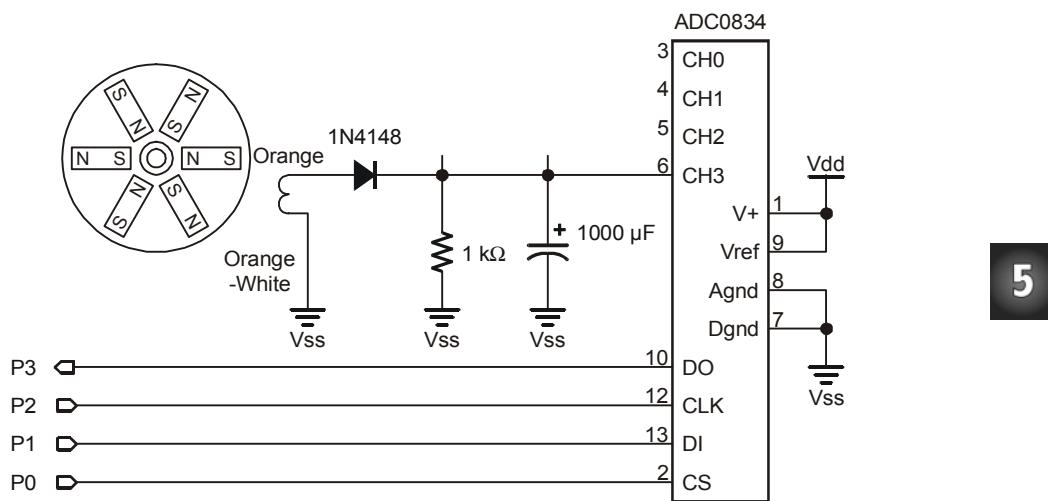
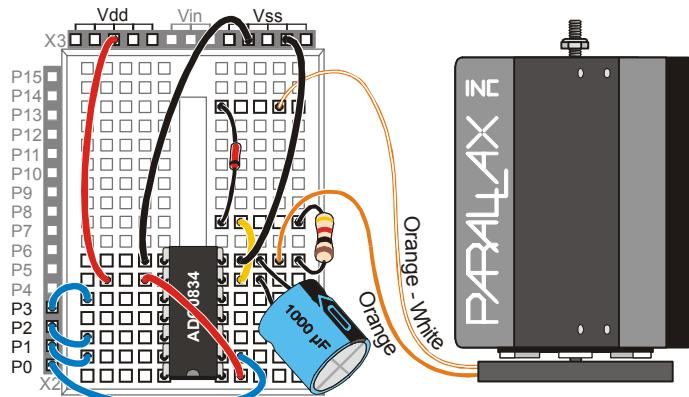

Figure 5-16: Half Wave Rectifier with Smoothing Capacitor Schematic
Figure 5-17: Half Wave Rectifier with Smoothing Capacitor Wiring Diagram
To get closer to the performance of a true linear DC power supply we need to begin to smooth out the half wave rectified peaks. This is done by adding a “smoothing” capacitor to the output of the circuit as shown in Figure 5-16. By adding a 1000 μ F “polarized”
- ✓ Add the 1000 μF capacitor to your circuit as shown in the schematic in Figure 5-16 Because the capacitor is polarized, meaning that it has a positive (+) and negative (-) terminal, take care to add the capacitor correctly as illustrated in Figure 5-17.